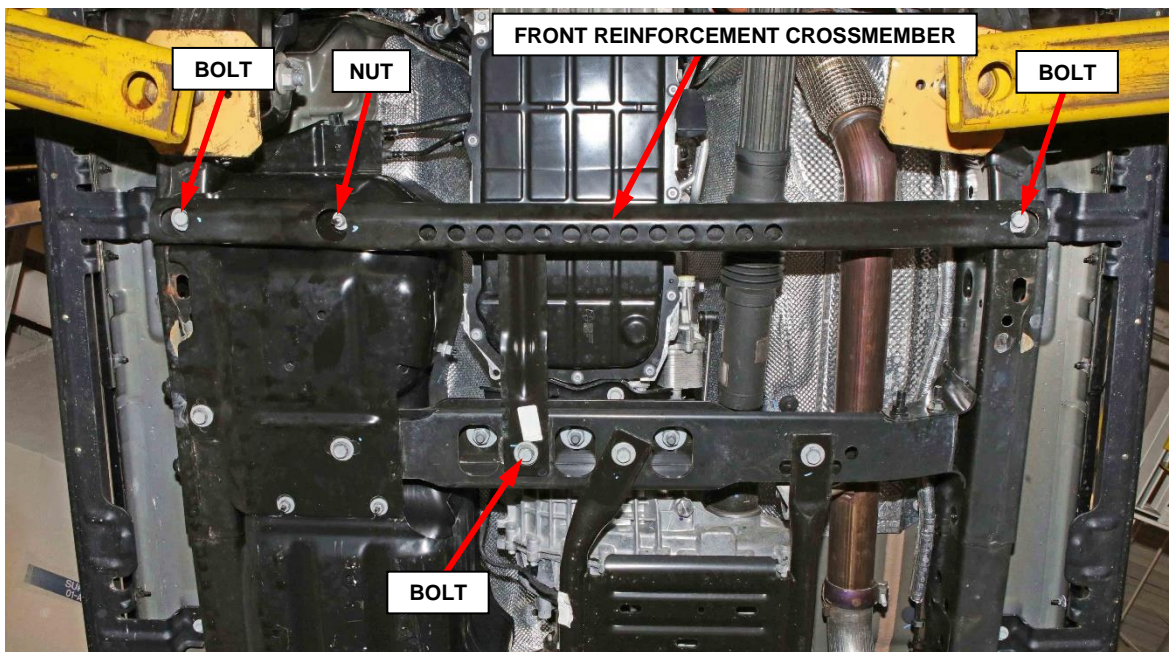

Figure 3 – Front Reinforcement Crossmember
2. Remove the fasteners, three bolts and one nut securing the front reinforcement crossmember then remove the crossmember from the vehicle (Figure 3).
8. Position the front reinforcement crossmember to the vehicle then install and tighten the three bolts and one nut (Figure 3).
6. Position the front reinforcement crossmember to the vehicle then install and tighten the three bolts and one nut (Figure 3).